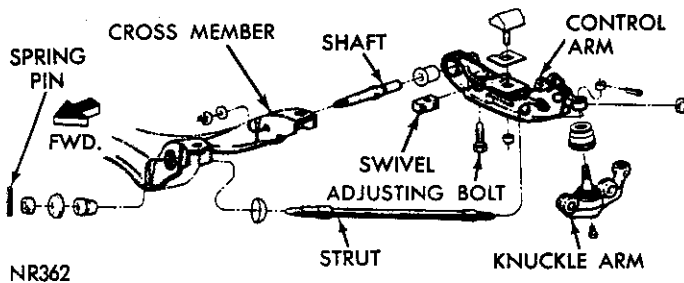
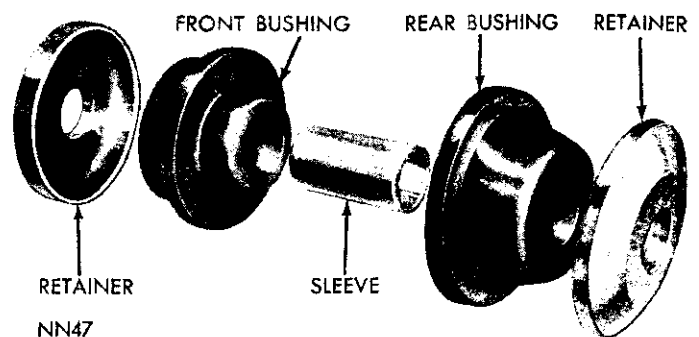

Fig. 11—Lower Control Arm (Dart)
Fig. 14—Strut Crossmember Bushings (Challenger)
- (1) With sway bar ends pointed toward front of car, insert sway bar thru hole in front crossmember into its correct position.
- (2) Install sway bar cushion retainer brackets and attaching bolts and nuts and tighten to 200 inch-pounds.
- (3) Position link bolt with retainer and rubber insulator thru sway bar mounting hole. Install other mounting components in correct sequence (Fig. 11). (Always making sure the concave side of retainers are toward the rubber insulators).
- (4) Position the link bolt, sway bar and the stack up of parts thru mounting bracket hole in lower control arms. Install upper rubber insulator, retainer and nut. Tighten link nut to 100 inch-pounds.
LOWER CONTROL ARM AND SHAFT (Figs. 11, 12)
- (7) Remove strut spring pin, front nut and bushing retainer (Fig. 11) from forward end of cross-member.
- (8) Remove nut and washer from lower control arm shaft.
- (9) Tap end of lower control arm shaft with a "soft end" hammer to aid in removal of shaft from cross-member.
- (10) Remove lower control arm, shaft and strut as an assembly.
- (11) Remove strut bushing from crossmember only if damaged; replace bushing. All models (except Dart) use a two piece bushing and sleeve arrangement (Fig. 14).
- (12) Remove strut bushing inner retainer from strut.
(1) Remove lower control arm, shaft and strut as an assembly.
(2) Remove nut holding strut to lower control arm and remove strut from control arm.
(3) Inspect strut bushings (Fig. 14). If bushings are worn or deteriorated, install new bushings.